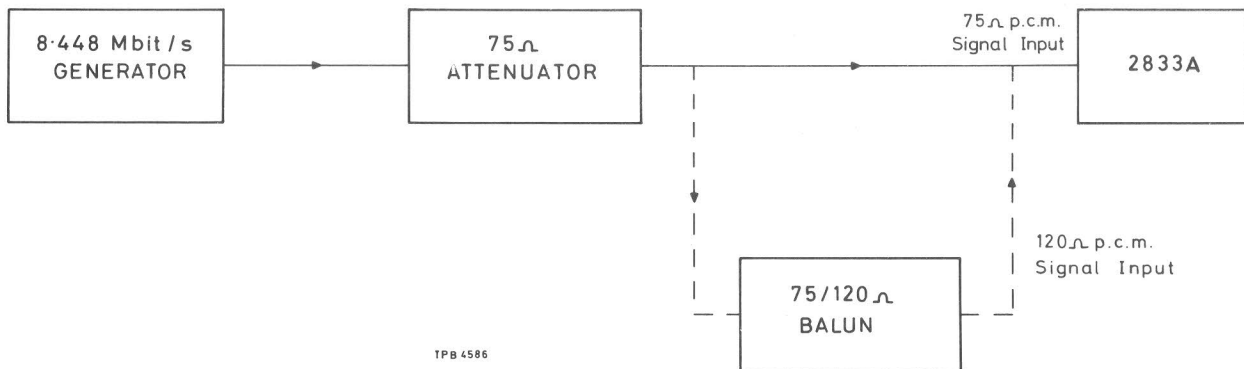

Fig. 2 Signal levels test (8M CODE)
(7) Connect the equipment as shown in Fig. 2.